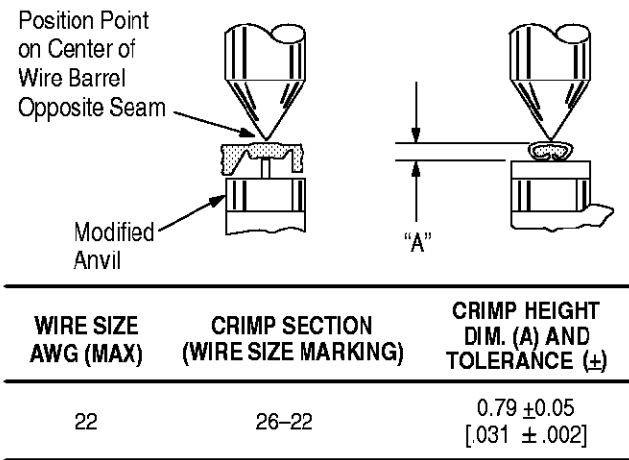

Figure 4
This tool is provided with a crimp adjustment feature. Initially, the crimp height should be verified as specified in Figure 4. Refer to Section 6, CRIMP HEIGHT INSPECTION, and Section 7, CRIMP HEIGHT ADJUSTMENT, to verify crimp height before using the tool to crimp desired contacts and wire sizes.
1. Refer to Figure 4 and select a wire (maximum size) for the crimp section.
3. Using a crimp height comparator, measure the wire barrel crimp height as shown in Figure 4. If the crimp height conforms to that shown in the table, the tool is considered dimensionally correct. If not, the tool must be adjusted. Refer to Section 7, CRIMP HEIGHT ADJUSTMENT.